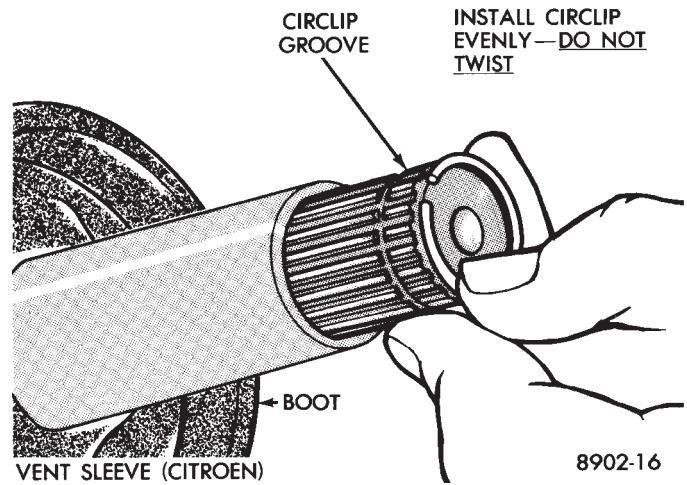

Fig. 8 Installing New Circlip
(9) Fasten boot to shaft. See **Boots Install**.
(10) On G.K.N. units insert the new circlip, provided with kit in shaft groove. **Do not over expand or twist** circlip during assembly (Fig. 8). The S.S.G. unit has a reusable circlip retainer that is an integral part of driver assembly.